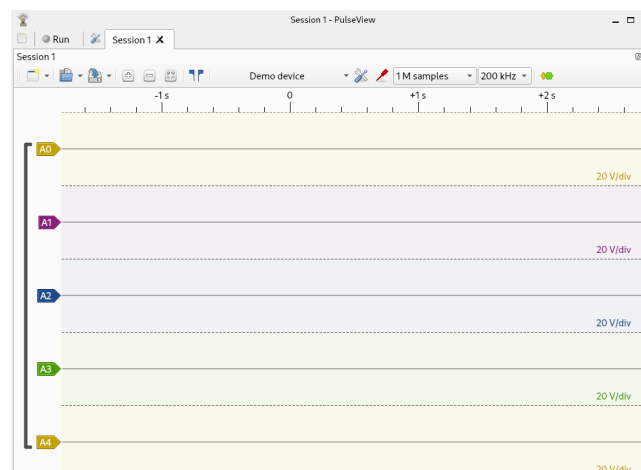

Figure 3.1: PulseView's opening window
1. Open the just installed PulseView, the window should look like Figure 3.1.